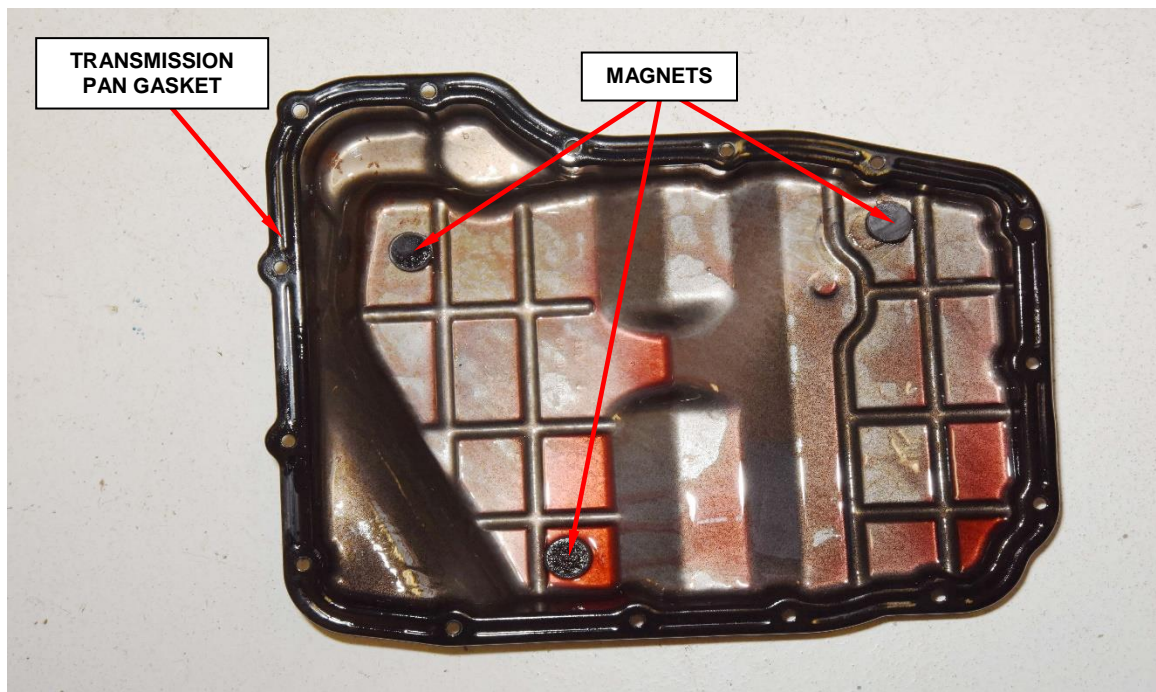

Figure 1 – Transmission Pan
7. Remove the transmission pan gasket and **DISCARD** If the vehicle has over **50 Miles, (80 Kilometers)** (Figure 1).
23. Using mineral spirits or equivalent clean the transmission pan and the 3 magnets, assure that all the mineral spirits or equivalent have been wiped out and allowed to dry before installing the transmission pan (Figure 1).
24. Install a **NEW** transmission oil pan gasket **ONLY** on vehicles that have **over 50 miles (80 Kilometers)** (Figure 1).